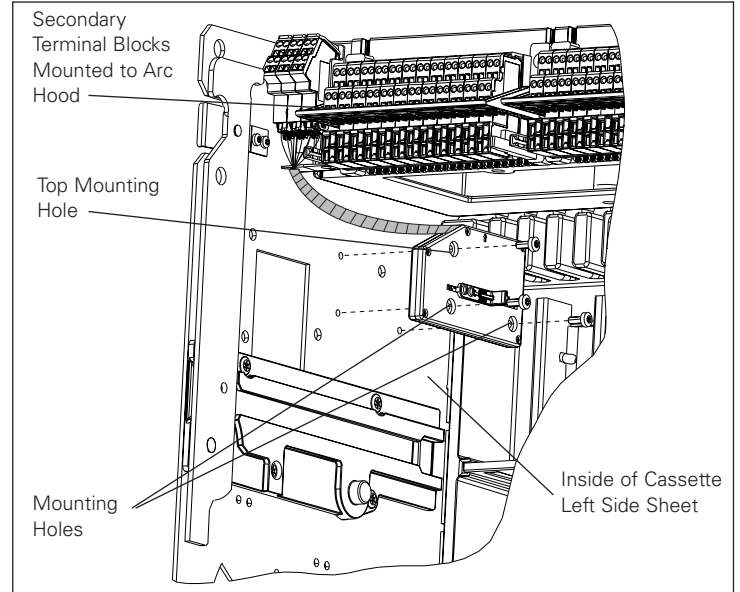
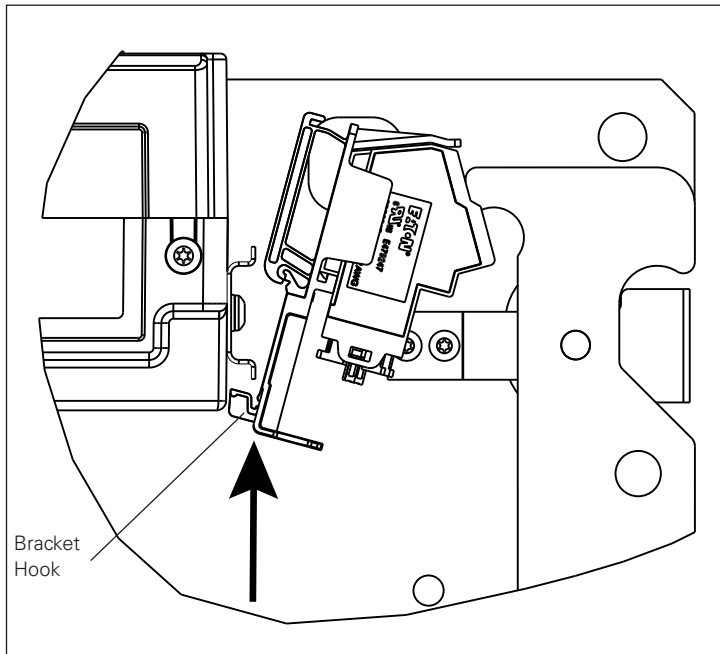

Figure 7. Steps 1 Through 3.
Figure 8. Step 4.
Step 2: Position the cell switch assembly (A) on the inside of the cassette's side sheet so the three mounting holes match up with the switch assembly mounting holes. Confirm the arrow at the top of the cell switch cases are pointing up and the arrow on the actuator is pointing toward the front of the cassette.
Step 3: Insert the 12 mm TORX head type mounting screw (E) supplied with the kit into the top mounting hole first. Next insert the remaining 12 mm TORX head type mounting screws. Hand tighten to a maximum torque of 25 in.- lbs. (2.8 Nm). Move the actuator front to back to ensure that the slider is free.
Step 4: The terminal block mounting bracket is mounted on the cassette DIN rail next to the secondary terminal blocks assembled to the arc hood (see Figure 7). This is accomplished by engaging the bottom hook of the bracket onto the lower portion of the DIN rail and then rotating the top portion of the bracket toward the arc hood until it snaps on (see Figures 8, 9, and 10).